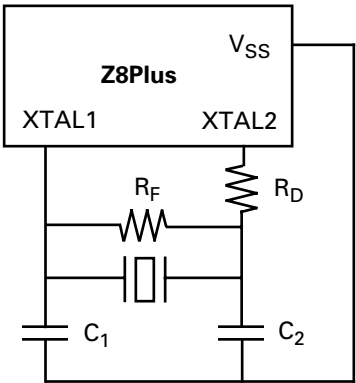
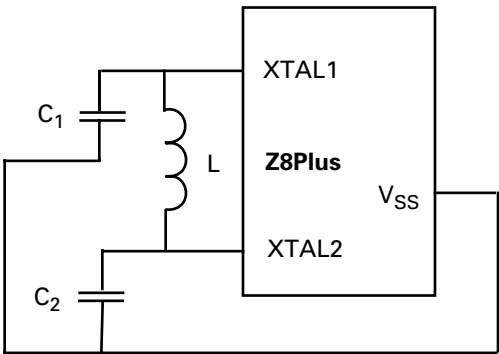
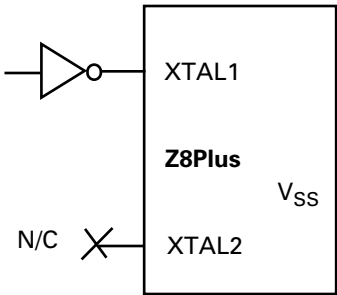

Figure 16. Crystal/Ceramic Resonator Oscillator
Figure 17. LC Clock
Figure 18. External Clock
Crystals and ceramic resonators (Figure 16) should exhibit the following characteristics to ensure proper oscillation:
Depending on the operation frequency, the oscillator may require additional capacitors, C₁ and C₂, as illustrated in Figure 16 and Figure 17. The capacitance values are dependent on the manufacturer’s crystal specifications.
Figure 16, Figure 17, and Figure 18 recommend that the load capacitor ground trace connect directly to the V_{SS} (GND) pin of the Z8Plus. This requirement assures that no system noise is injected into the Z8Plus clock. This trace should not be shared with any other components except at the V_{SS} pin of the Z8Plus.
The Z8Plus oscillator can use an inductor capacitor oscillator (LC) network to generate an XTAL clock (Figure 17). The frequency stays stable over V_{CC} and temperature. The oscillation frequency is determined by the equation: